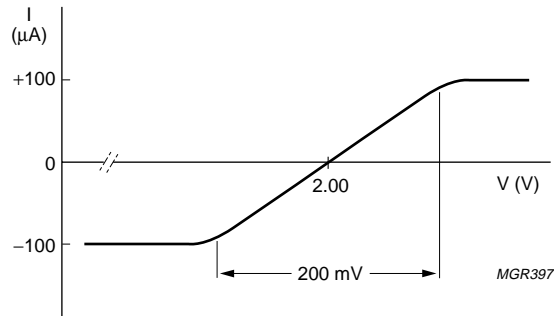
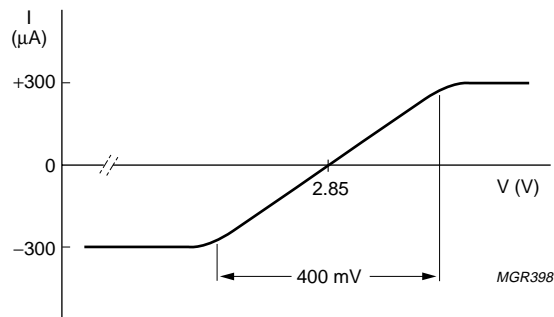

Fig.9 Typical clamp current for pin CPCDS.
Fig.10 Typical clamp current for pins IND and INP.
1. More information about CDS related signals is available in the following figures: The clamp current for pin CPCDS is given in Fig. 9, clamp current for pins IND and INP in Fig 10 and for clamp current for pin V_{ref} in Fig 11. The CDS output amplitude is shown in Fig. 14